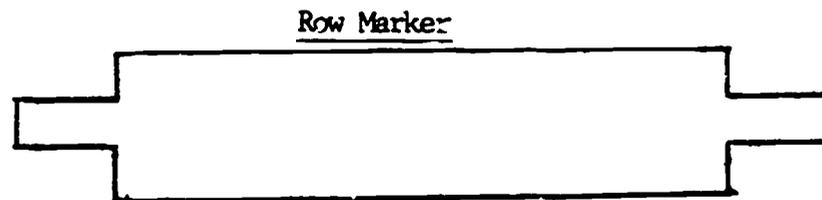

FIGURE 2
- G. Row marker (see Figure 2)